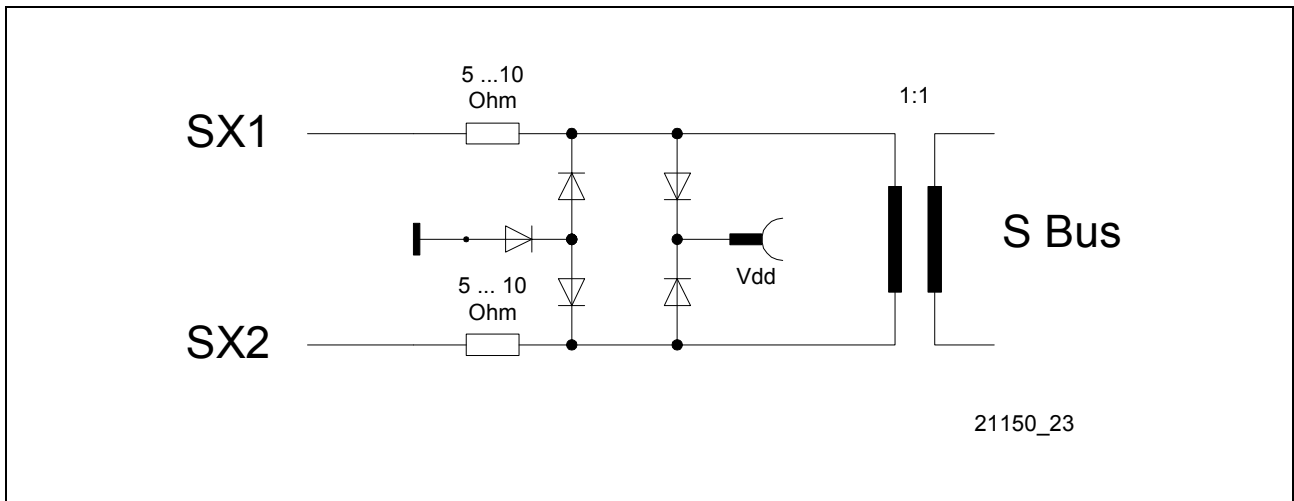

**Figure 29 External Circuitry for Transmitter**
**Figure 29** illustrates the secondary protection circuit recommended for the transmitter.
An ideal protection circuit should limit the voltage at the SX pins from  $-0.4 \text{ V}$  to  $V_{DD} + 0.4 \text{ V}$ . With the circuit in **Figure 29** the pin voltage range is increased from  $-1.4 \text{ V}$  to  $V_{DD} + 0.7 \text{ V}$ . The resulting forward voltage of  $1.4 \text{ V}$  will prevent the protection circuit from becoming active if the  $96 \text{ kHz}$  test signal is applied while no supply voltage is present.